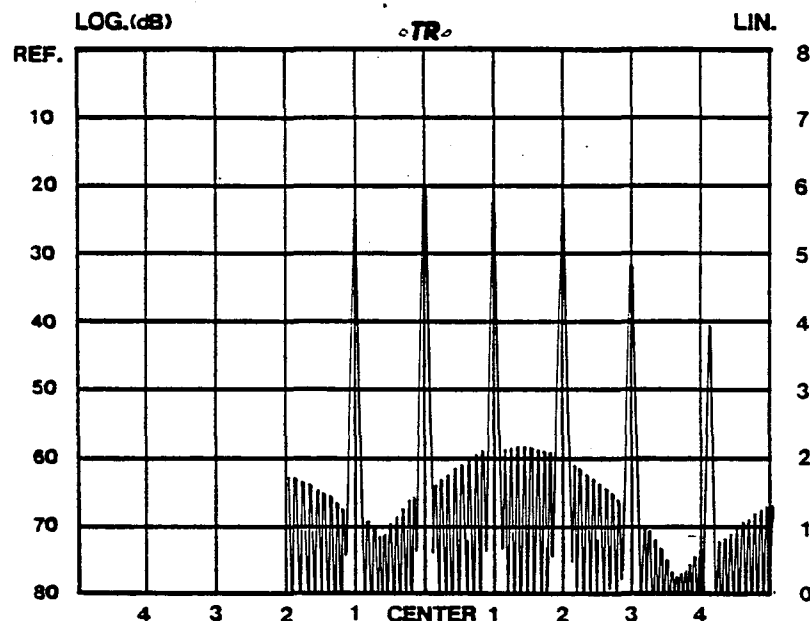

Fig. 3-5 10 MHz CAL. signal spectrum
- (14) Set the 10 MHz spectrum at the CENTER mark by turning the TUNING control clockwise. (See Fig. 3-5)
- (15) Confirm that the level of the 10 MHz spectrum is -20 dBm (i.e. the peak of the spectrum is located at mark 20 on the Y axis). If the level of this spectrum is not -20 dBm, adjust it with the CAL. control.
- (16) Set the RF ATT. switch at 10 dB, 20 dB, etc., the level of the 10 MHz spectrum thus being lowered in 10 dB decrements. The dynamic range differs with the input signal level. Set the level most appropriate for measurement using the RF ATT. switch.